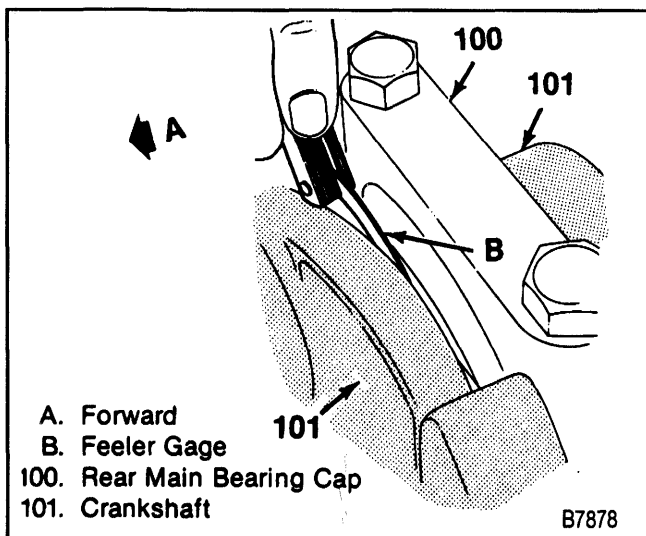

Figure 37—Measuring Crankshaft End Play
C. With the crankshaft forced forward, measure at the front end of the rear main bearing with a feeler gage (figure 37). The proper clearance is 0.002-0.006-inch.